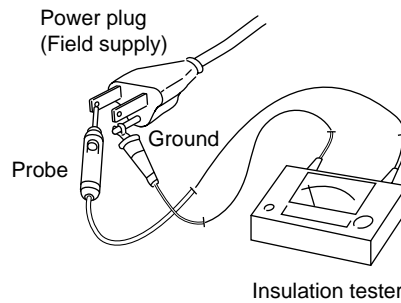
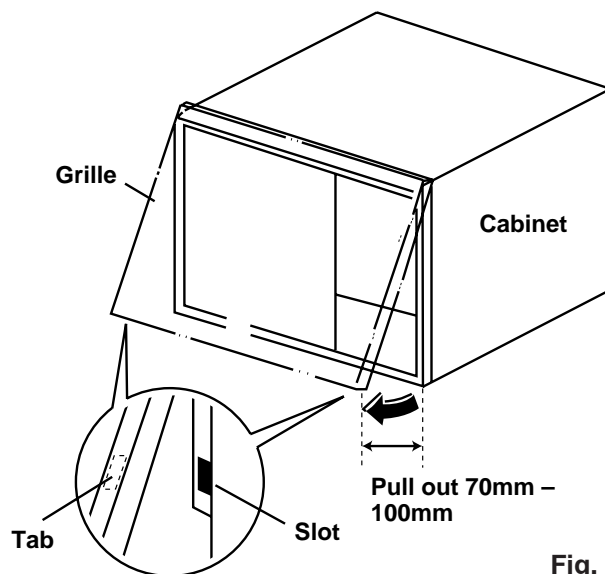

Fig. 1
Fig. 2
Clamp the grounding prong of the power plug with a lead clip of the insulation resistance tester and measure the resistance by placing a probe on either of the two power blade. (Fig. 1)
Then, also measure the resistance between the grounding prong and other power blade. (Fig. 1)
- (1) Pull out the filter.
- (2) Remove the screw holding the grille in place. (Fig. 1)
- (3) Slide the side of the grille to the left and right to disengage the tabs on the left and right sides of the grille from the slots.
- (4) Pull the bottom portion of the grille toward you while paying attention to the ventilator lever. (Fig. 2 and 4)